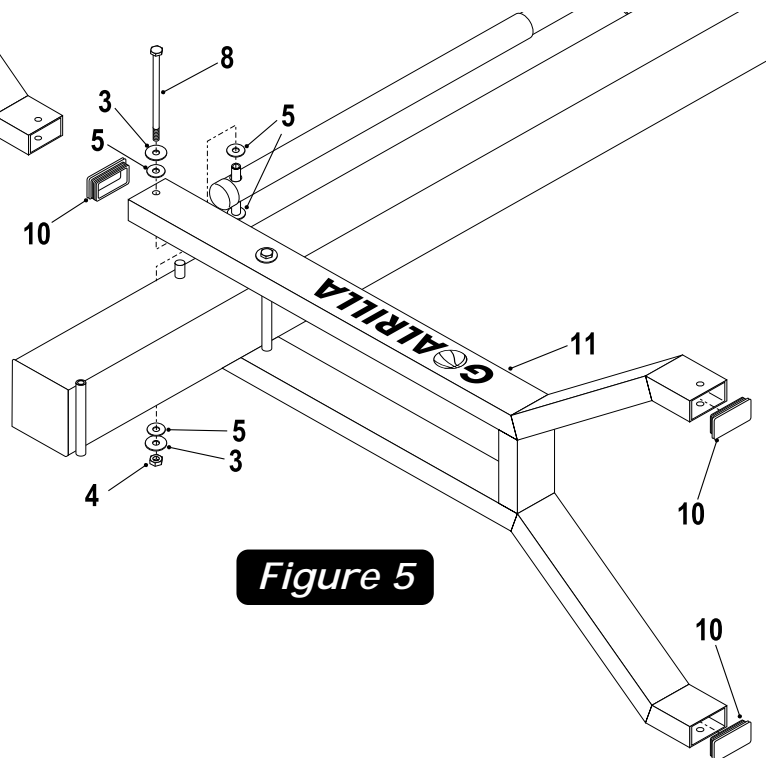

Figure 5
5. Secure Actuator (#16) to Lower Arm (#11) using one bolt (#8), two flatwashers (#3), four plastic washers (#5) and one hex nut (#4). See Figure 5. Tighten both bolts (#8) securing Lower Arm (#11). **Important!** Tighten bolts snug but, do not over tighten. Board Arms must pivot freely.